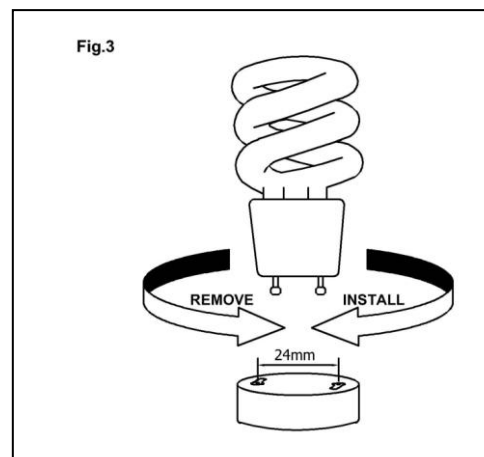

Fig.4
7. Notice: To comply with UL Standards and maintain product warranty, use clear silicone sealant to outline the outside of the fixture back plate where it meets the wall to prevent moisture from entering the junction box while leaving a space at the bottom to allow moisture to escape (Fig. 4.). Failure to do so will void any expressed warranty.